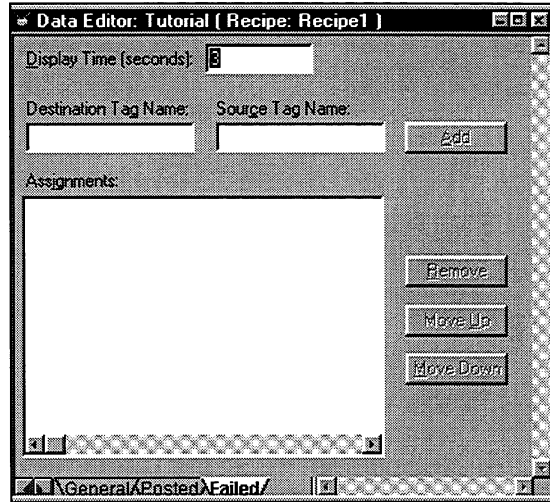

Figure 9-5. Failed Assignment Page
1. Select the Failed tab on the bottom of the Recipe Editor form to access the Failed Assignment page, as shown in Figure 9-5.